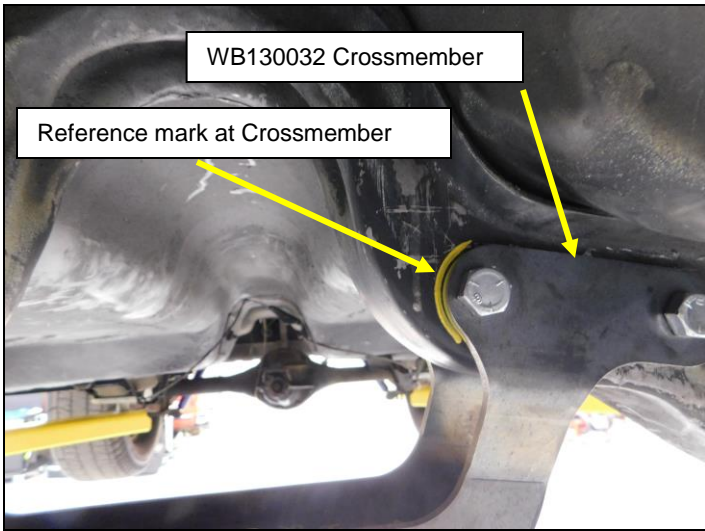

Figure 1
1. Install the **WB130032** Transmission Crossmember into the car using the supplied 3/8" x 4" bolts. Use a paint pen or marker to outline the ends of the bracket onto the torsion bar crossmember at the inside sets of bolt holes as shown in **Figure 1**.